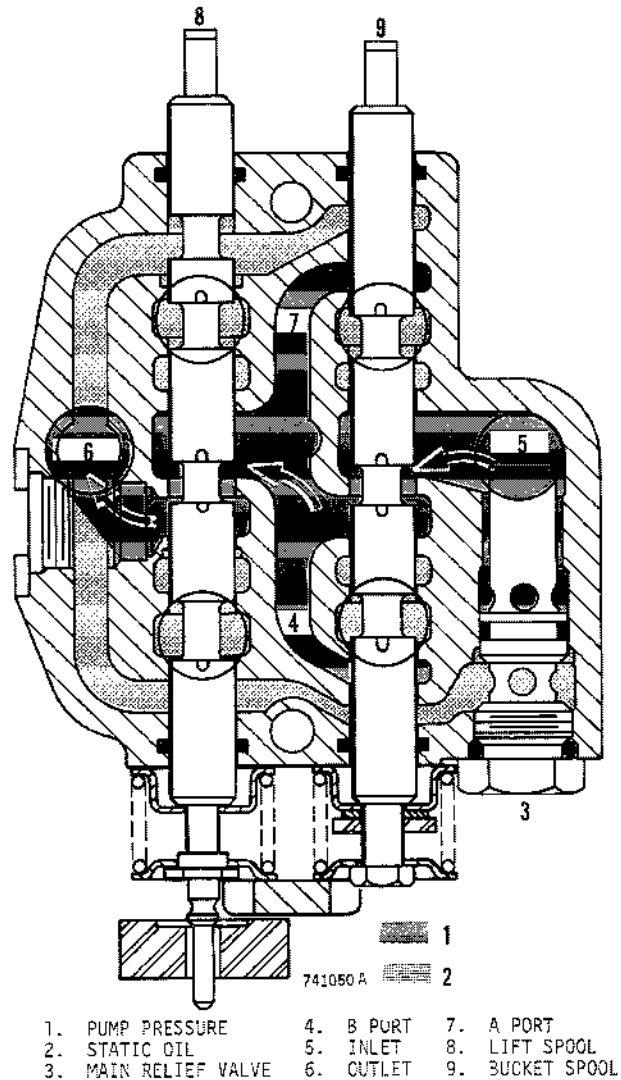

Figure 6 - Oil Flow, Spools in Neutral
3. Coat the smooth side of the pressure plate with a light, clean grease and position on end cover as shown in Figure 6. Then coat the O-ring with grease and position in groove formed by the pressure plate and end cover.
With the control valve spools in Neutral, oil flows from the inlet straight through the open center passage to the outlet as shown in Figure 6.